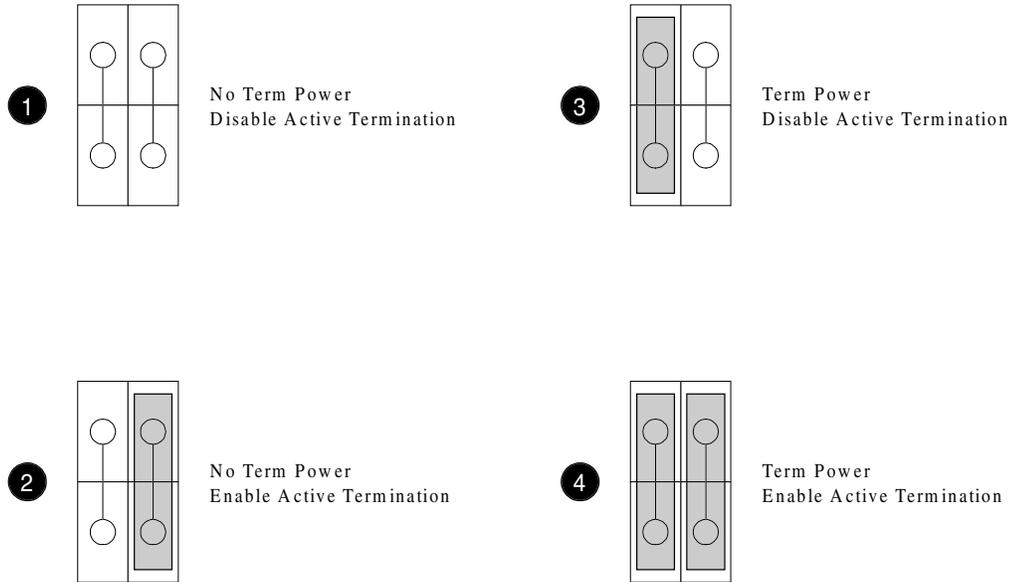

Figure 14. TRM PWR/TRM ENB Jumper Positions
Figure 14 and the table following it illustrate the possible position(s) for the TRM PWR/TRM ENB jumper(s).
If an external SCSI terminator is used, configurations ② and ④ in Figure 14 cannot be used.